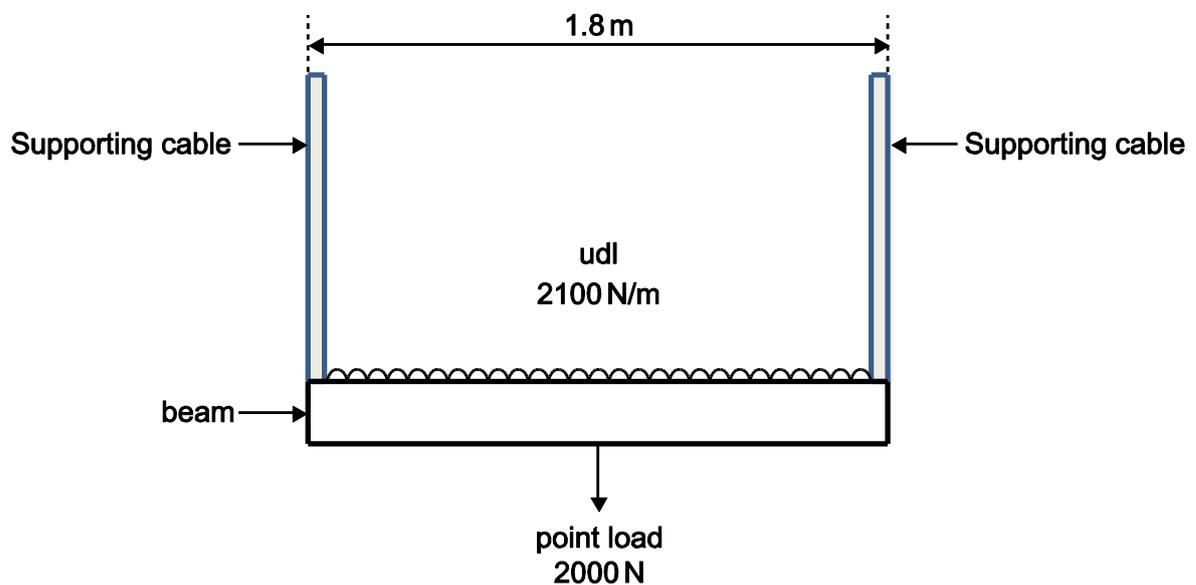

Fig. 13
- (ii) The chair can be modelled as a beam with a worst case loading scenario as shown in Fig. 13.